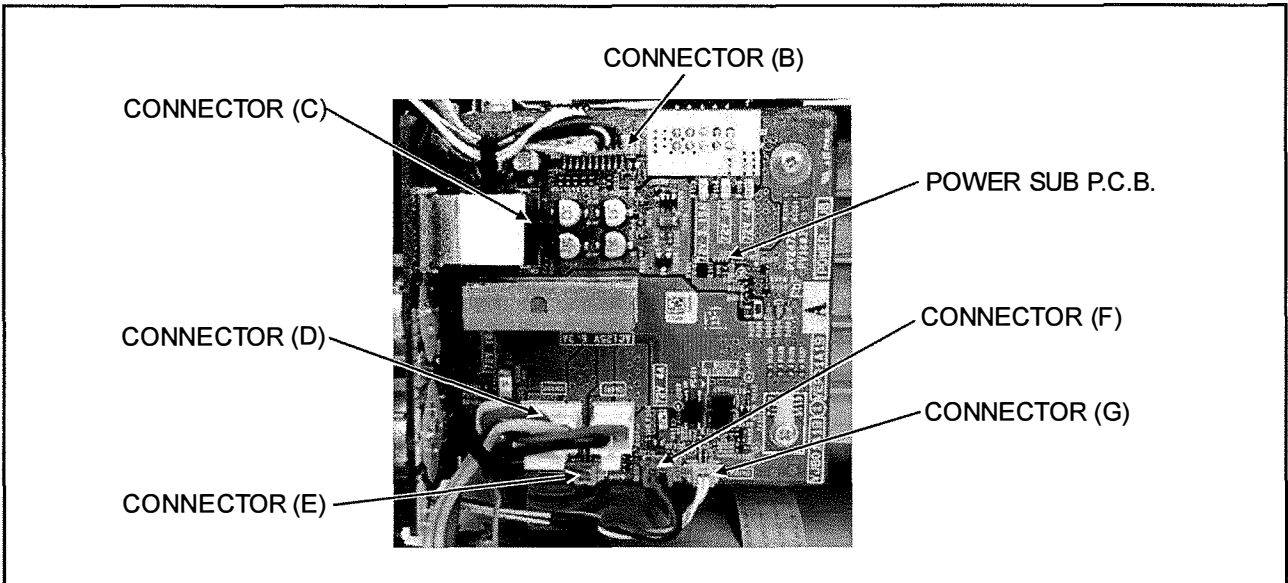

Figure 8-2
7. Disconnect the connector (B), (C), (D), (E), (F) and (G) on the POWER SUB P.C.B. as shown in figure 8-2.